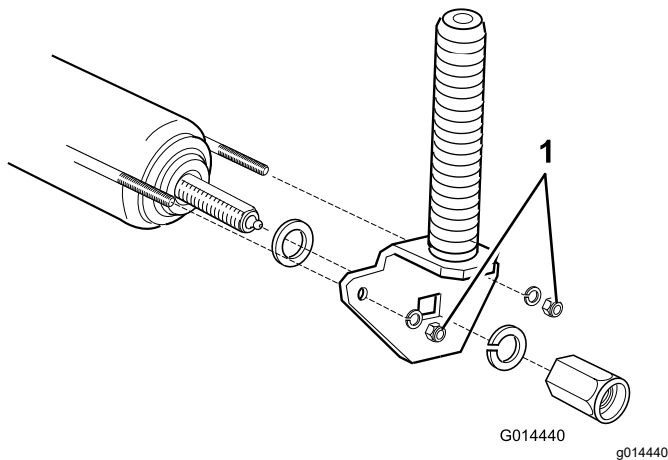

Figure 82
2. Tighten the nuts 4 full turns to correctly tension the wire (Figure 82).